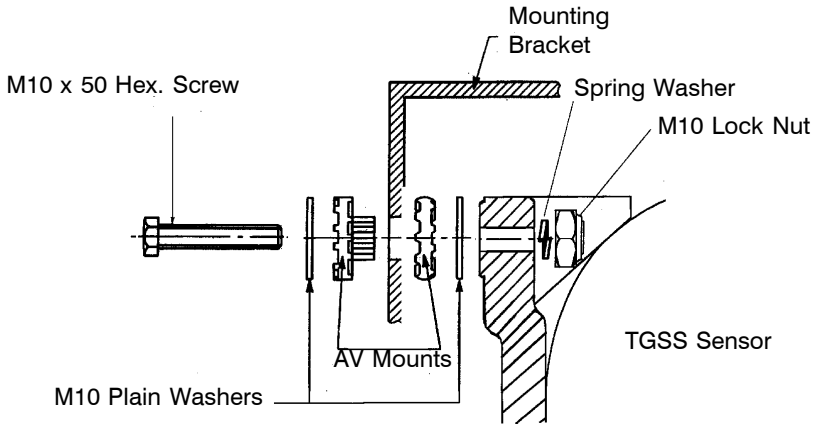

Fig. 24 - Anti-vibration mounting
2. Fit the radar sensor to the bracket (or to the vehicle frame) using the anti-vibration mounts as shown in figure 24. Do not overtighten the nuts. Ensure that the anti-vibration (AV) mounts are not squeezed up to much as to be ineffective.